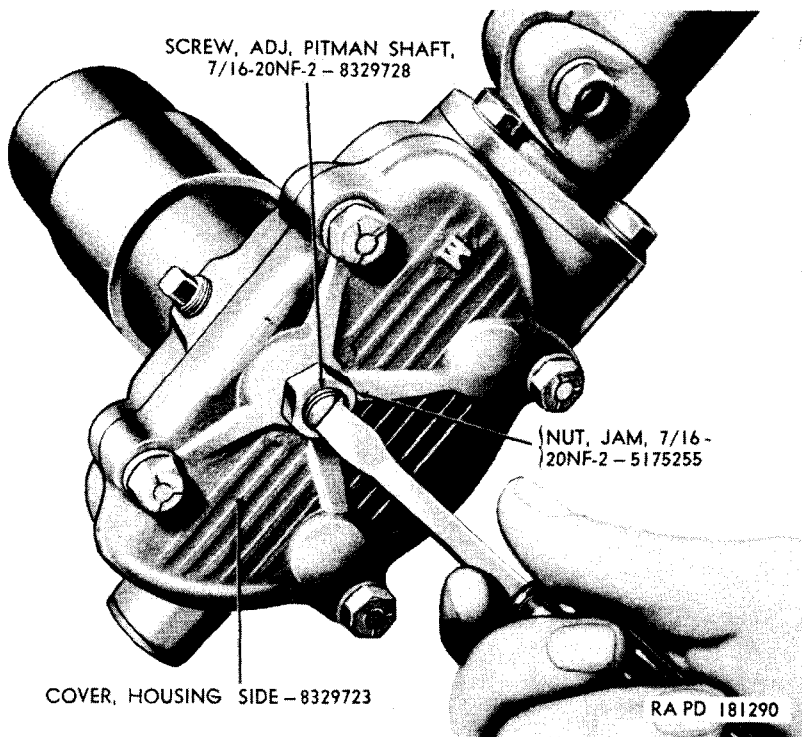

Figure 154. Adjusting backlash.
b. *Endplay Adjustment of Shaft With Integral Worm* (fig. 150). If end play (up and down play of shaft with integral worm) is correct, a slight drag will be felt when shaft is rotated. Test end play by rotating shaft with integral worm (L). If shaft is too tight, shims (K-7) must be added; if too loose, shims must be removed. Before adding or removing shims, loosen pitman shaft adjusting screw (fig. 154). Remove three bolts (Q) and lockwashers securing housing upper cover with seal assembly (M) to steering gear housing and pull upper cover away from housing. If shims are to be added, make a
c. Backlash Adjustment (fig. 154). Place shaft (L, fig. 150) in straight ahead driving position.